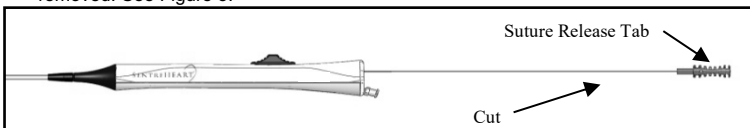

Figure 5 Suture Cutting
20. Cut the excess Suture at the Suture Release Tab to allow for the LARIAT RS to be removed. See Figure 5.